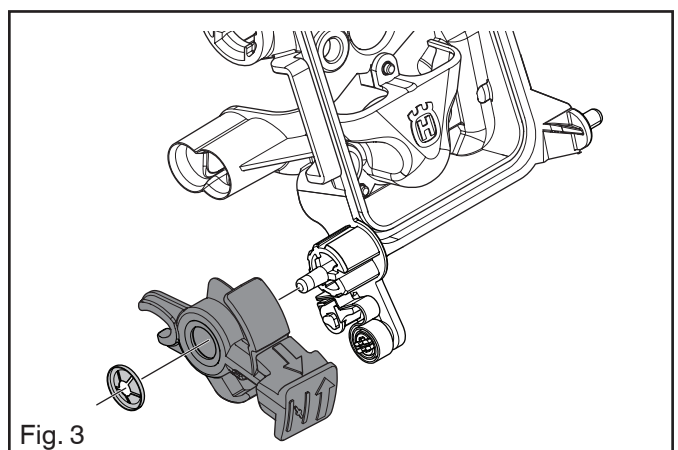

Fig. 3
Carefully clean and check all components. See Figure 3. Parts must be replaced if cracked or if they show signs of other defects. Always use original spare parts.
1. If the start/stop switch has been replaced, fit the new start/stop switch to the air filter holder. See Figure 3.